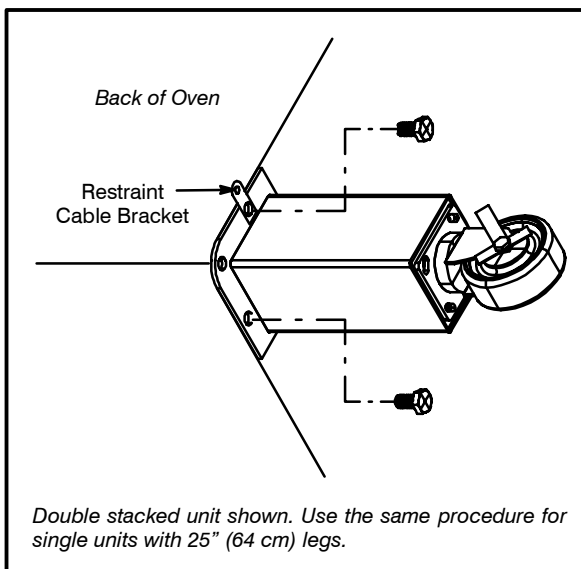

Figure 8
1. Mount the supplied bracket to the leg bolt just below the gas inlet. See Figure 8.